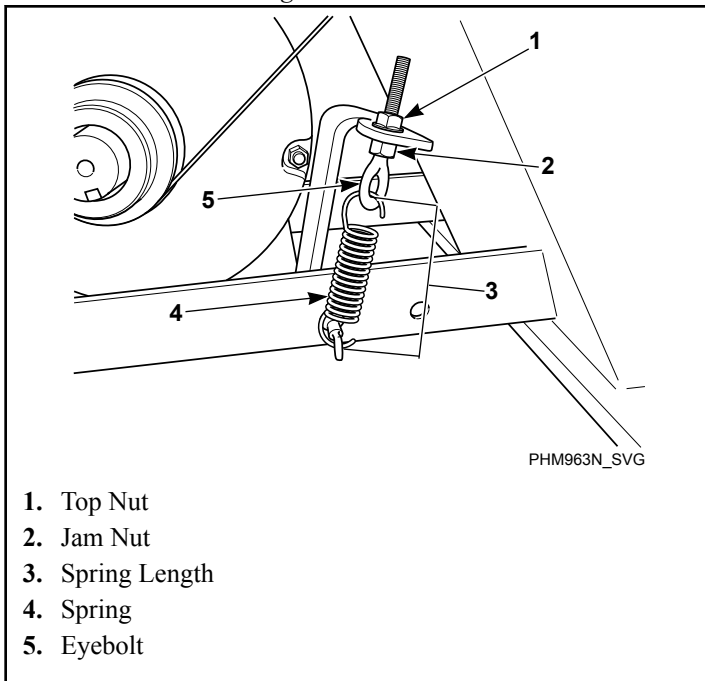

Figure 66
- **Frequency Gauge.** Tighten eyebolt top nut until the correct frequency (refer to *Table 47*) is obtained mid-span. Torque jam nut to spring bracket to 20.6 ± 2 ft.-lbs. Refer to *Figure 66* .
Torque jam nut to spring bracket to 20.6 ± 2 ft.-lbs. Refer to *Figure 66* .
- **Spring Length.** Tighten eyebolt top nut until the spring measures the correct distance between the hooks. Refer to *Table 46* . Torque jam nut to spring bracket to 20.6 ± 2 ft.-lbs. Refer to *Figure 66* .
- **Maintain Tension During Belt Removal.** If proper tension is achieved, tape the jam nut in place and loosen eyebolt top nut to release the belt. Replace belt and retighten eyebolt top nut back to jam nut position. Refer to *Figure 66* .